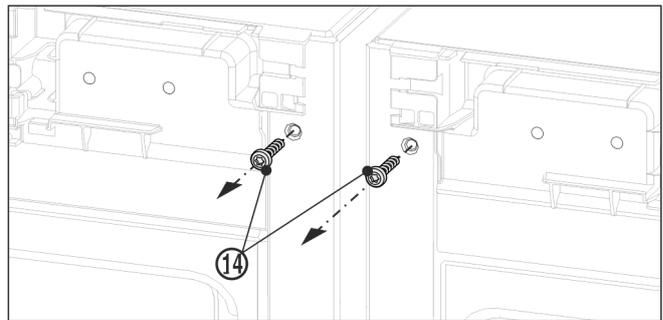

Fig. 12
- ▶ Before fitting the top bracket remove both earthing screws Fig. 12 (14).